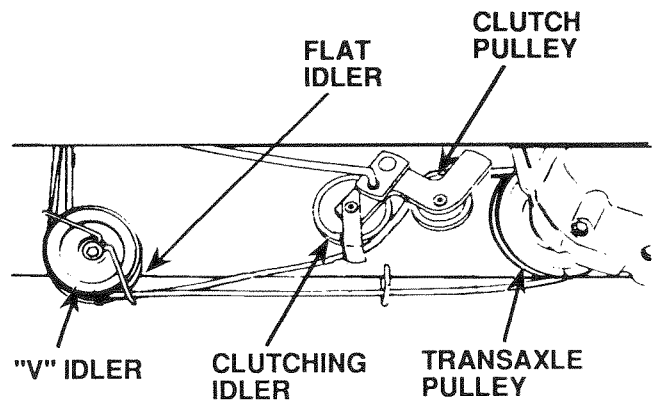

FIGURE 27
- Roll Belt off "V" Idler, Flat Idler and Clutching Idler Pulleys (Fig. 27).
- Place Belt around Transaxle Pulley. "V" part of Belt should engage Transaxle Pulley (Fig. 27).
- Make sure "V" part of Belt engages "V" Idler (Fig. 27).